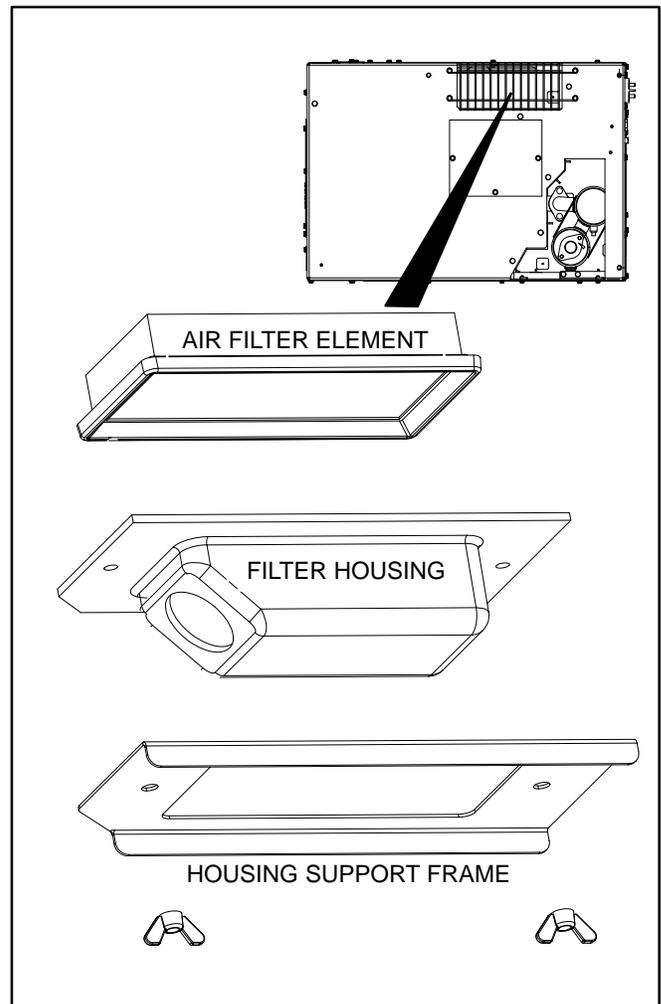

FIGURE 11. AIR FILTER
Remove the protective grille below the air filter (Figure 11). Then unscrew the two (2) wingnuts and pull away the housing support frame, housing and filter element.